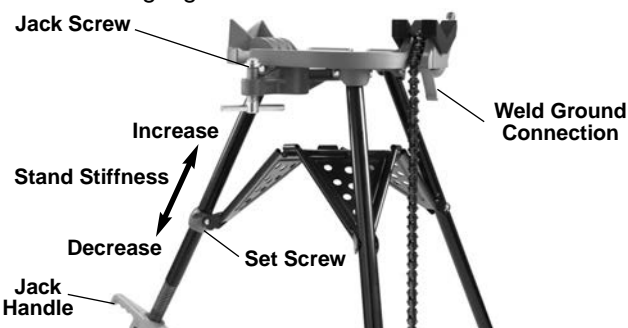

Figure 2 – Adjusting Tray Support (460-12)
8. Welding Connection – The 460-6 and 460-12 TRISTAND Pipe Vises include a welding ground connection point under the vise, see *Figure 2*.